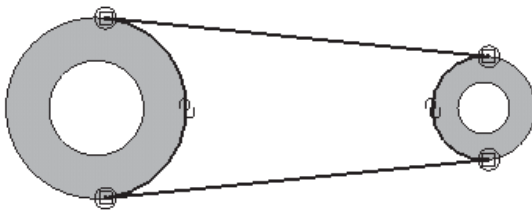

Figure 4-69 Profile for the second feature
3. Draw tangent lines on these circles and then trim the unwanted portion of the profile. Because you used the projected entities, you do not need to dimension the profile. The profile for the second feature is shown in Figure 4-69.